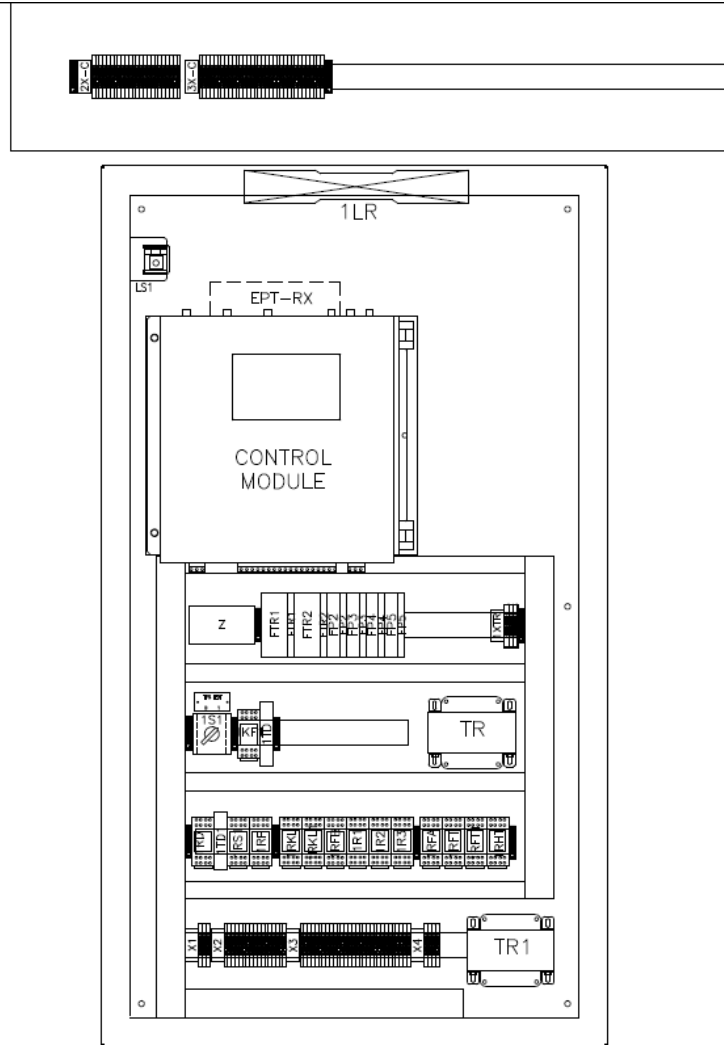

Figure 22 - MV-TPS Low Voltage Compartment
- The EPT-Rx (Electronic Potential Transformer Receiver) is located behind the Control Module (not shown on Figure 22).